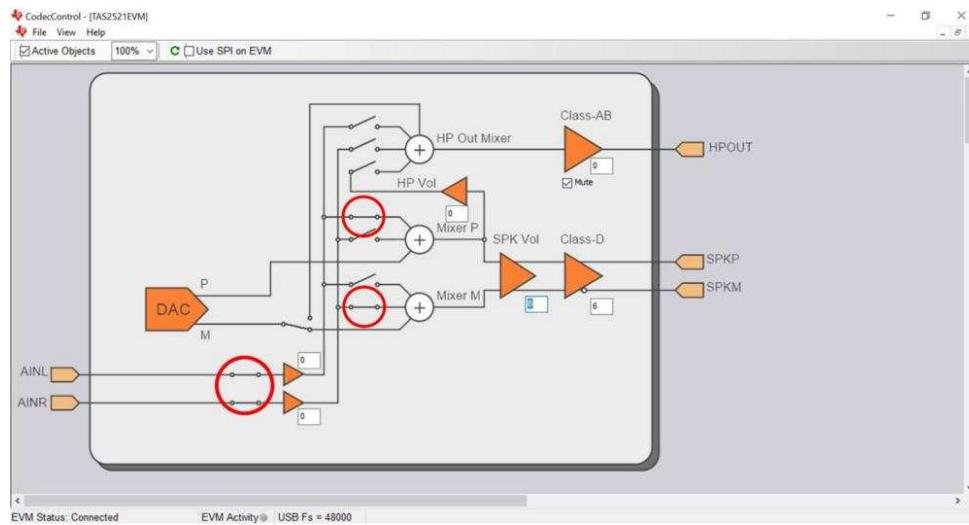

Figure 14. Settings for Analog Inputs
- On the GUI, close the switches circled in red in Figure 14 by clicking on them.